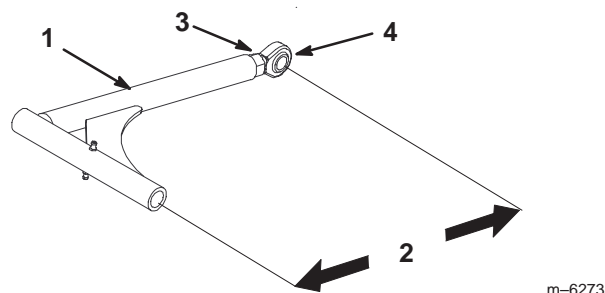

Figure 71
11. If the fixed idler contacts the end of the adjustment slot and more belt tension is required, a small change to lengthen the push arms can be made (Fig. 71).
12. To adjust push arms, loosen jam nut and rotate ball joint counter-clockwise, one turn at a time. Adjust each side the same amount (Fig. 71).